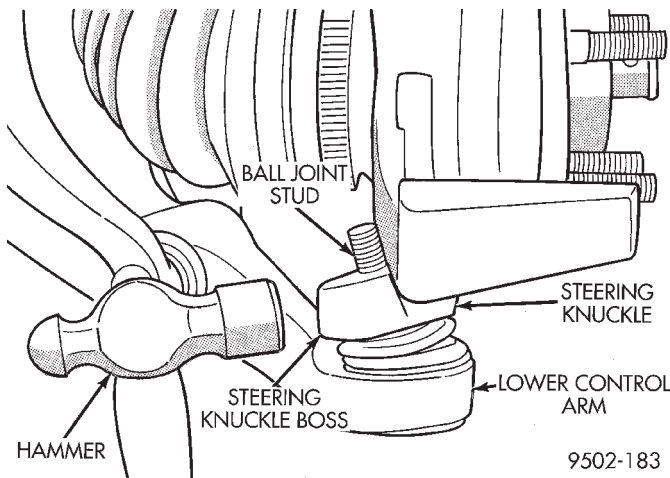

Fig. 54 Separating Lower Ball Joint Stud From Steering Knuckle
(8) Turn steering knuckle so the front of the steering knuckle is facing as far outboard in the wheel opening as possible (Fig. 54). Using a hammer strike steering knuckle boss (Fig. 54) until steering knuckle separates from the lower ball joint. **When striking steering knuckle care MUST be taken not to hit lower control arm or ball joint grease seal.**